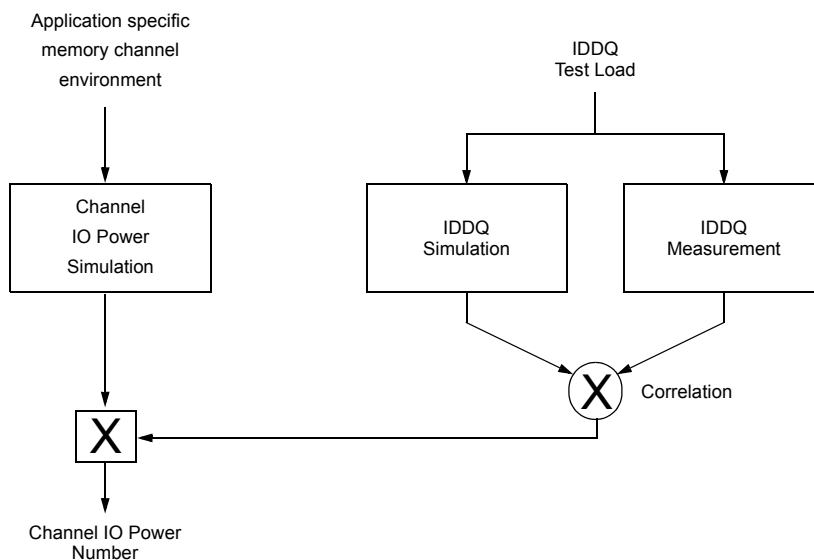

Figure 22. Correlation from simulated Channel IO Power to actual Channel IO Power supported by IDDQ Measurement.
- Attention: IDDQ values cannot be directly used to calculate IO power of the DDR4 SDRAM. They can be used to support correlation of simulated IO power to actual IO power as outlined in Figure 22. In DRAM module application, IDDQ cannot be measured separately since VDD and VDDQ are using one merged-power layer in Module PCB.